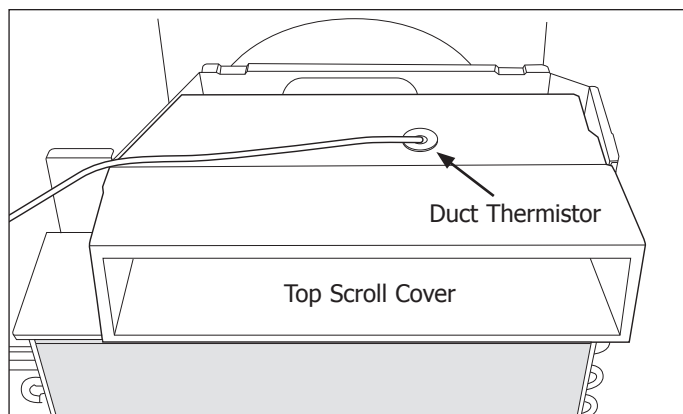

Figure 4-41.
4. Disconnect duct thermistor wire leads from control board. (See Figure 4-41)